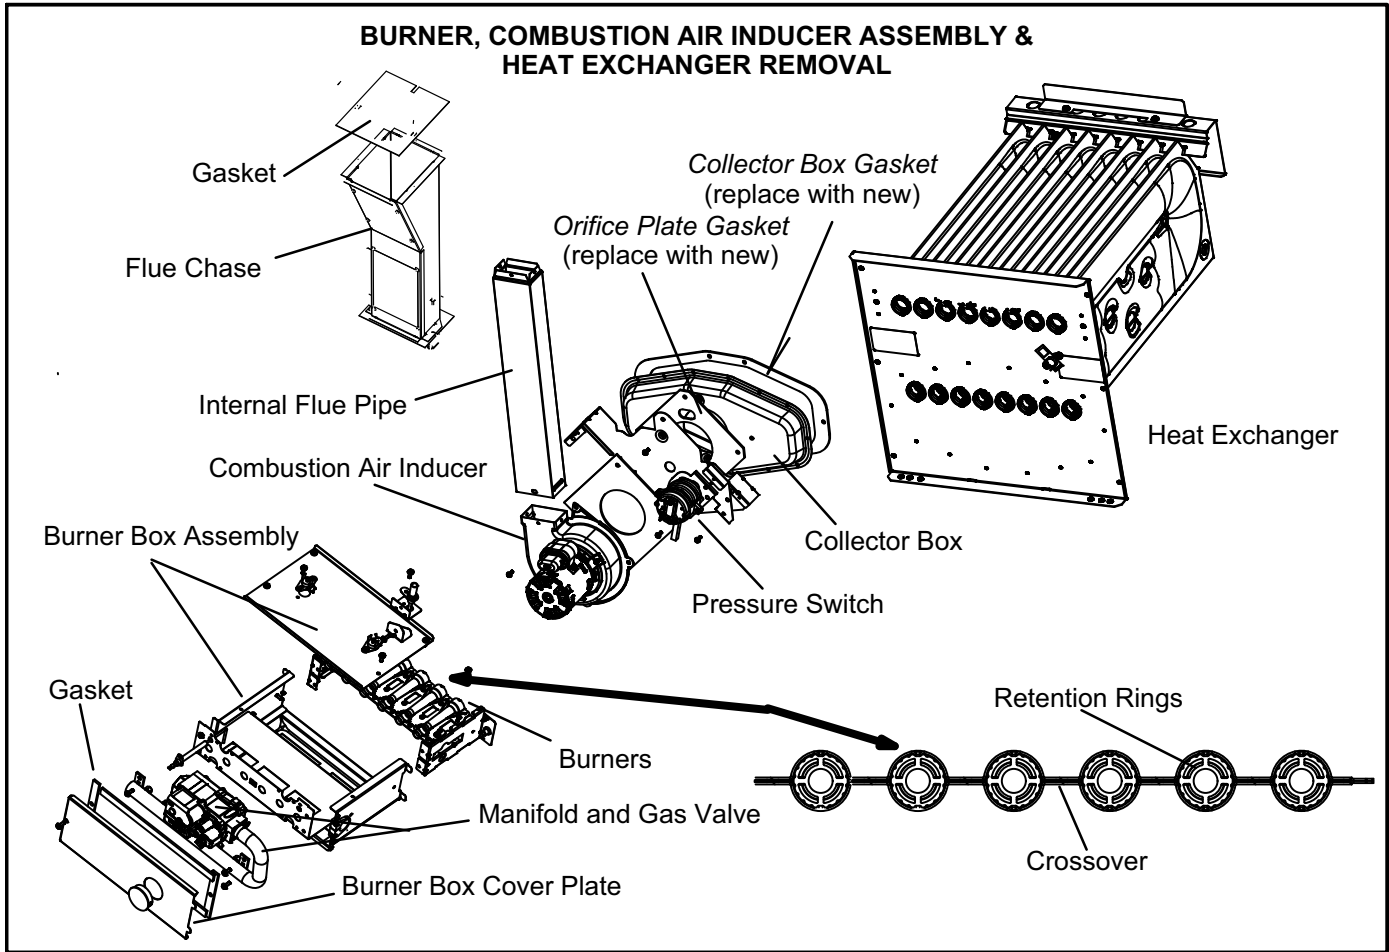

FIGURE 1
Refer to figure 1 as you disassemble the the unit. Place papers or protective covering in front of the furnace before removing the heat exchanger assembly.
- 10- Visually inspect inside the burners and crossovers for any blockage caused by foreign matter. If burners and crossovers are clean move to next step. If necessary, run a vacuum cleaner with a soft brush attachment over the face of burners. Remove any blockage. Figure 1 shows burner detail.